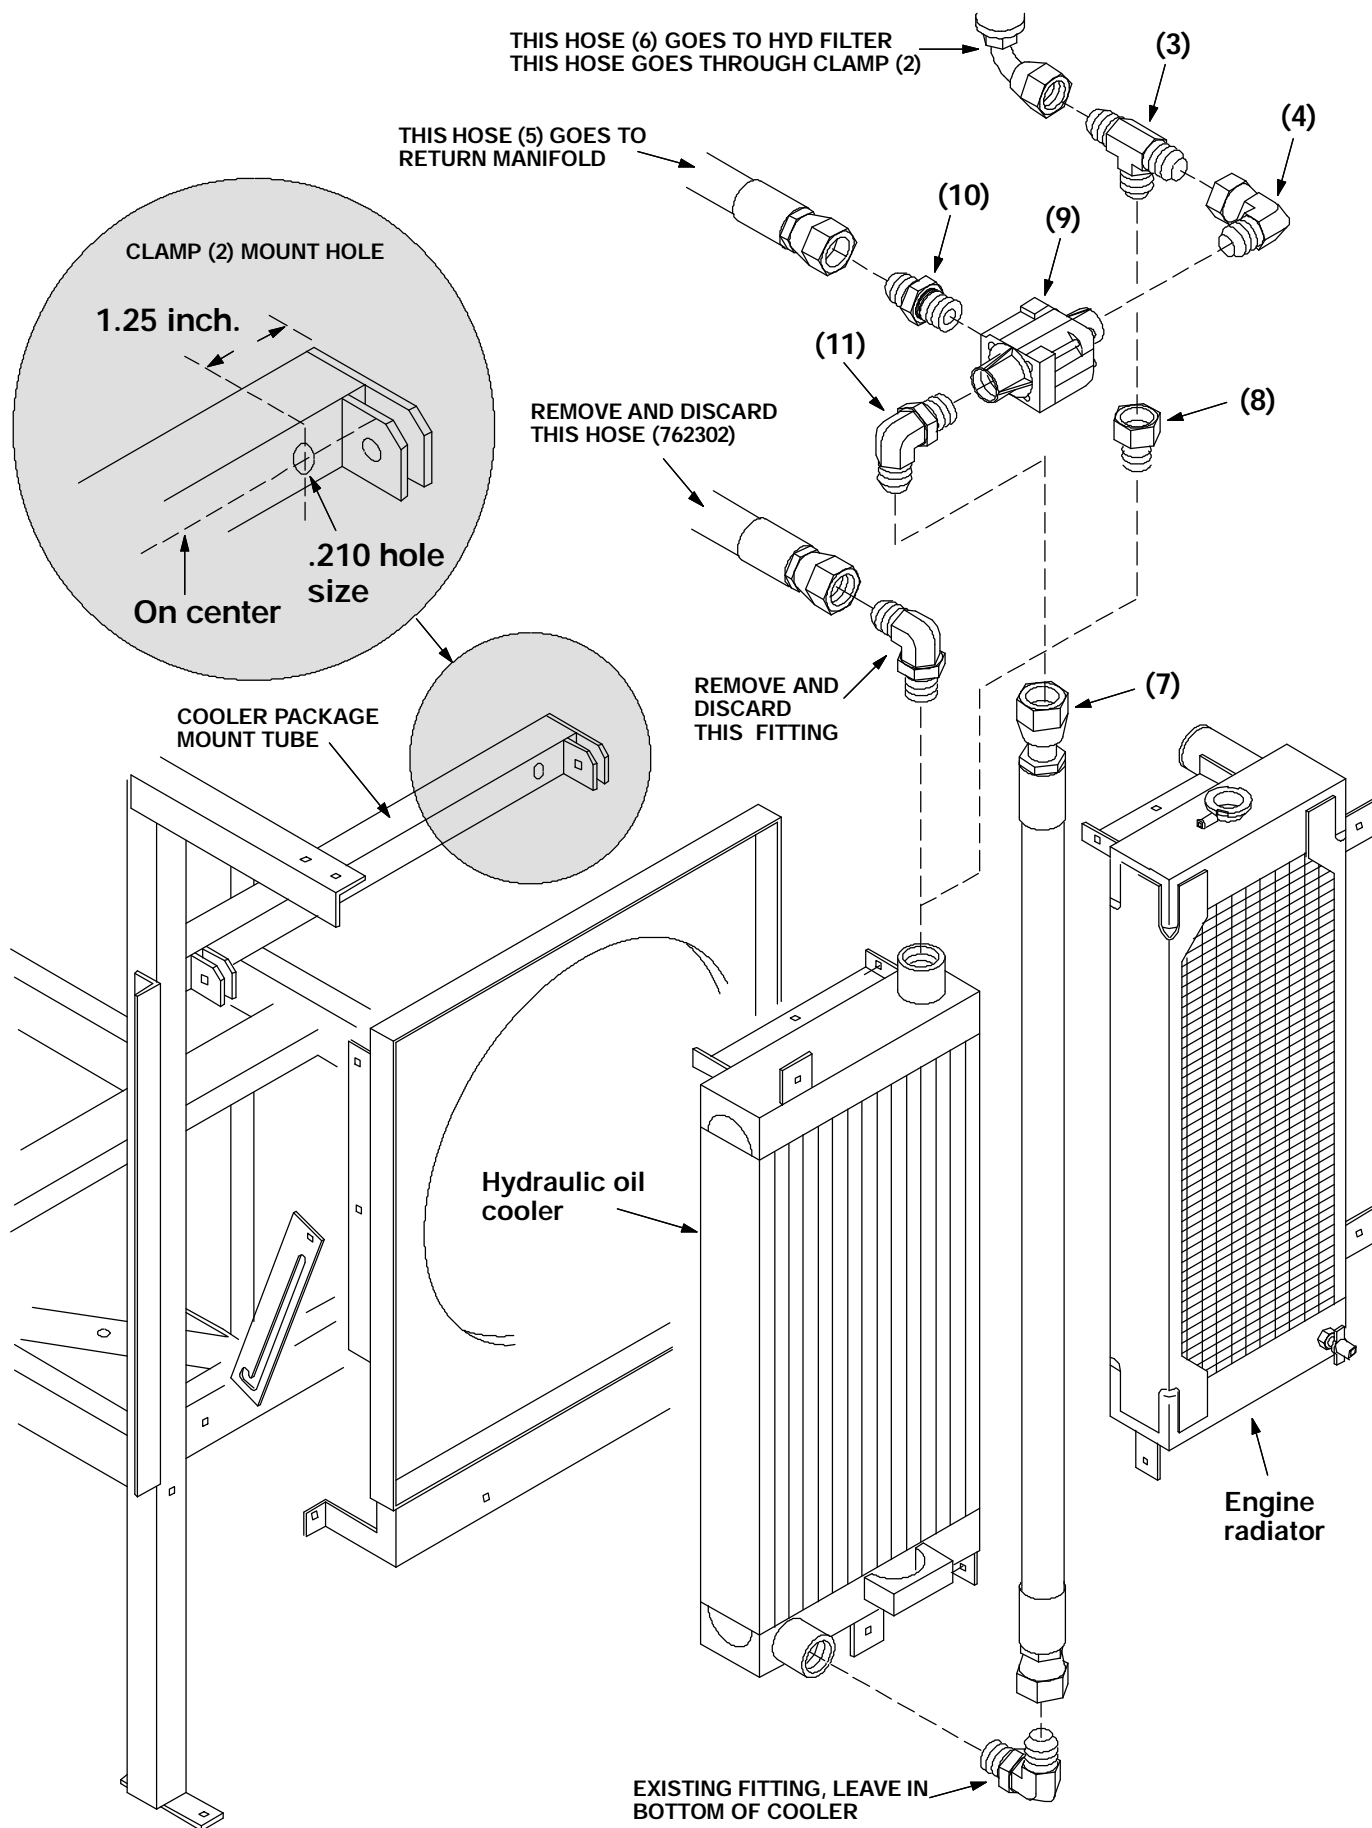

FIG. 1 - Thermal Bypass And Hose Assembly
(Refer to FIG. 1 and 2)
1. Mark and drill a .210 diameter hole in the cooler package mount tube under the front of the engine. This hole will be used to mount the hydraulic hose clamp (2) later. (Refer to FIG. 1)
2. Remove and discard the hydraulic hose (762302) leading to the 90° fitting on top of the hydraulic oil cooler and over to the return manifold. (Refer to FIG. 1 and 2)
3. Remove and discard the 90° fitting on top of the hydraulic oil cooler. Install the new straight fitting (8) in place of the fitting just removed. Hand tighten firmly. (Refer to FIG. 1 and 2)
4. Install the tee fitting (3) into the straight fitting (8). Hand tighten firmly. (Refer to FIG. 1 and 2)
5. Remove and discard the hydraulic hose (762301) leading to the 90° fitting on the bottom of the hydraulic oil cooler and over to the return manifold. Leave the 90° fitting installed in the bottom of the hydraulic oil cooler. (Refer to FIG. 1 and 2)
6. Sub-assemble the hydraulic fittings (10, 11, and 4) into the Thermal bypass valve (9). See diagram in FIG. 1. (Refer to FIG. 1 and 2)
7. Mount the Thermal bypass subassembly on top of the hydraulic cooler. The 90° fitting with the swivel end (4) is installed on the forward facing port on the tee fitting (3) on the top of the hydraulic oil cooler. (Refer to FIG. 1 and 2)
8. Install one end of the new hydraulic hose (6) on the open port of the tee (3) on top of the hydraulic oil cooler. Connect the other end of this hose (6) to the open port on the hydraulic filter. Install the hose clamp (2) and screw (1) around this hose. Use the hole drilled earlier to mount the clamp on cooler package mount tube. (Refer to FIG. 1 and 2)
9. Install one end of the new hydraulic hose (5) on the straight fitting in the Thermal bypass subassembly. Connect the other end of this hose (5) to the open port on the return manifold. Check to see that the "O" rings are in place. (Refer to FIG. 1 and 2)
10. Install one end of the new hydraulic hose (7) on the downward pointing 90° fitting of the Thermal bypass subassembly on top of the hydraulic cooler. Other end of this hose (7) is connected to the 90° fitting on the **bottom** of the hydraulic oil cooler. (Refer to FIG. 1 and 2)